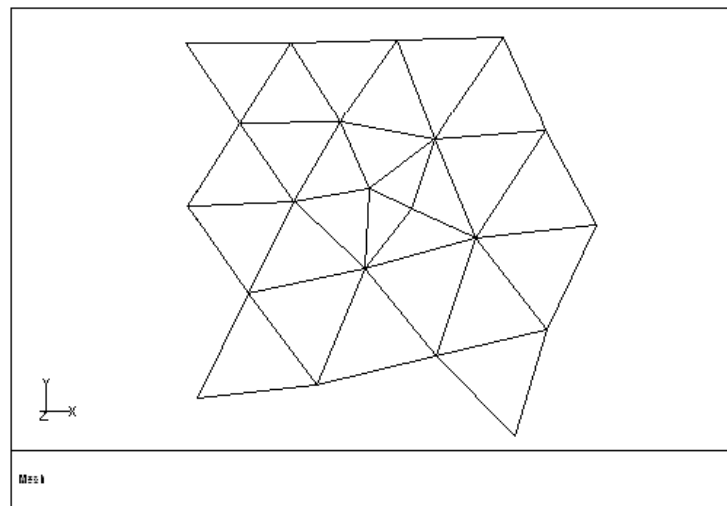

Figure 1.15: Surface Mesh After Node Smoothing
- TGrid performs node smoothing to make the surrounding cells as uniform in size as possible (see Figure 1.15).
From this point onward, the tutorial attempts to demonstrate some of the additional face modification tools that are available in TGrid using the cluster of cells shown in Figure 1.15.